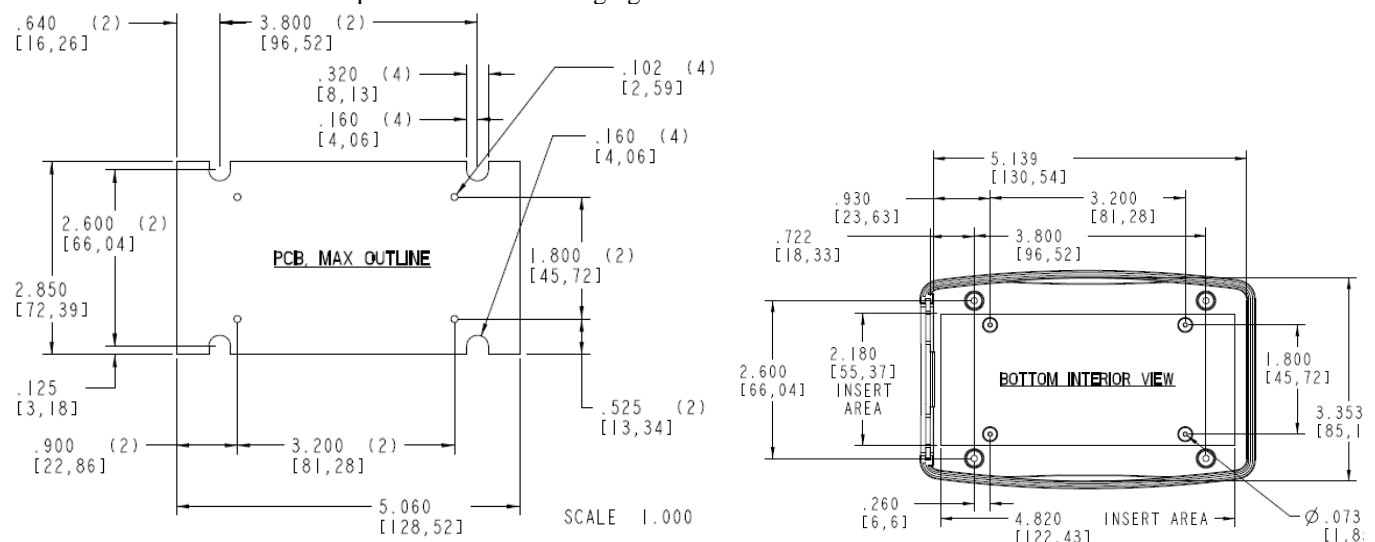

Figure 6.2. Mechanical drawings for the Pactec XP enclosure.
3. Decide on the PCB size you need to hold all the components. Choose a box in which to place the system. Go to a box manufacturer (like <http://www.pactecenclosures.com/> or <http://www.serpac.com/>) and select a box for your system. There are lots of Pactec and Serpac boxes in Valvano's office if you want to see what they look like. You will need to know the box dimensions, weight, and cost. The starter files are configured for a 5in by 5in PCB, to fit into a cheap \$1 surplus box. You will want to choose a smaller, prettier box. There is no specific requirement in this lab to minimize cost or size. A bigger box will handle a bigger PCB, making layout simpler. To get the price, you can search a parts distributor (like www.jameco.com www.mouse.com www.newark.com or <http://www.digikey.com/>) or a parts search engine like <http://octopart.com/>. In particular, you will need layout dimensions for placing a PCB board into the box, like Figure 6.2. Remember to leave room for the battery. All systems have operator buttons, which can be placed either on the box with cables onto the PCB (for \$2 each), or soldered directly on the PCB (for no additional cost), but positioned so the buttons protrude outside the box. If you are building Lab 3 alarm clock, then the LCD needs to protrude out the top of the box and be plugged into a 14-pin header (HD44780¹) on the PCB without needing a cable (using the Samtec BCS-114-L-S-TE header for which you should have a free sample). You can place a small 32- Ω speaker in the box. If you are building the Lab 4 stepper controller, then the 7-pin header to the motor is added to the PCB and the motor can be placed outside the box (StepperMotor¹). If you are building the Lab 5 music player, then a stereo jack (HeadphoneJack¹) is soldered directly on the PCB, but positioned so the jack protrudes outside the box. You were given a headphone jack in EE319K.
One page description of the box (like Figure 6.2, Preparation 3)